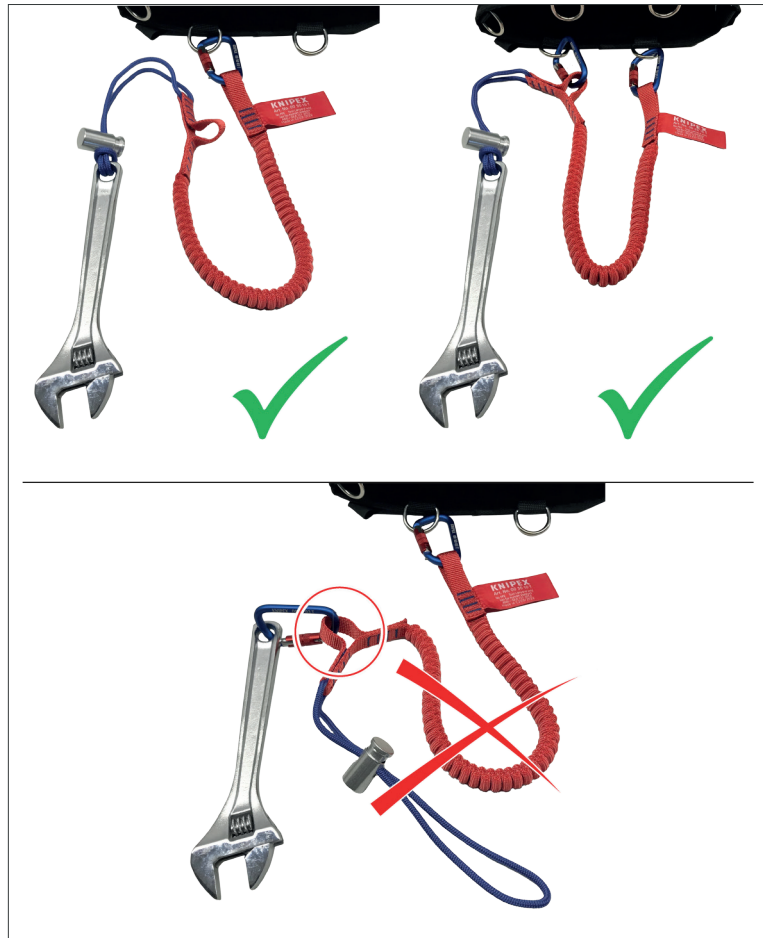

Figure 12: Abridge connection
- Never use the flat belt loop for abridged connection for tethering (Figure 12).
This flat belt loop for abridged connection must never be used to secure a tool for fall protection (figure 12).